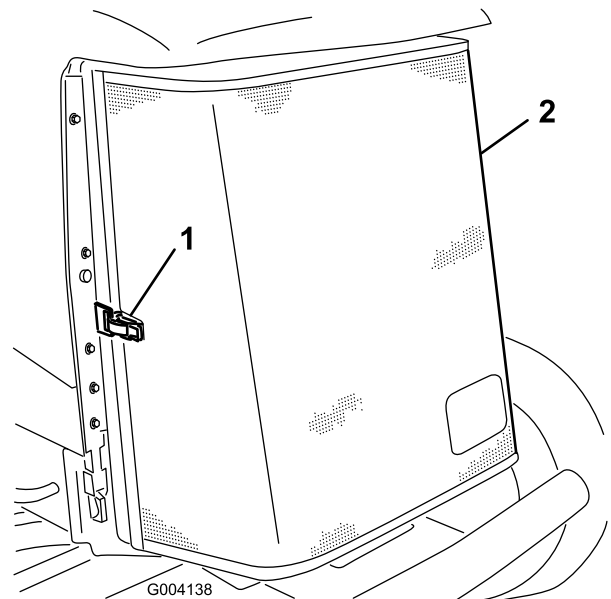

Figure 142
3. Unlatch the clamp and pivot open the rear screen (Figure 142).